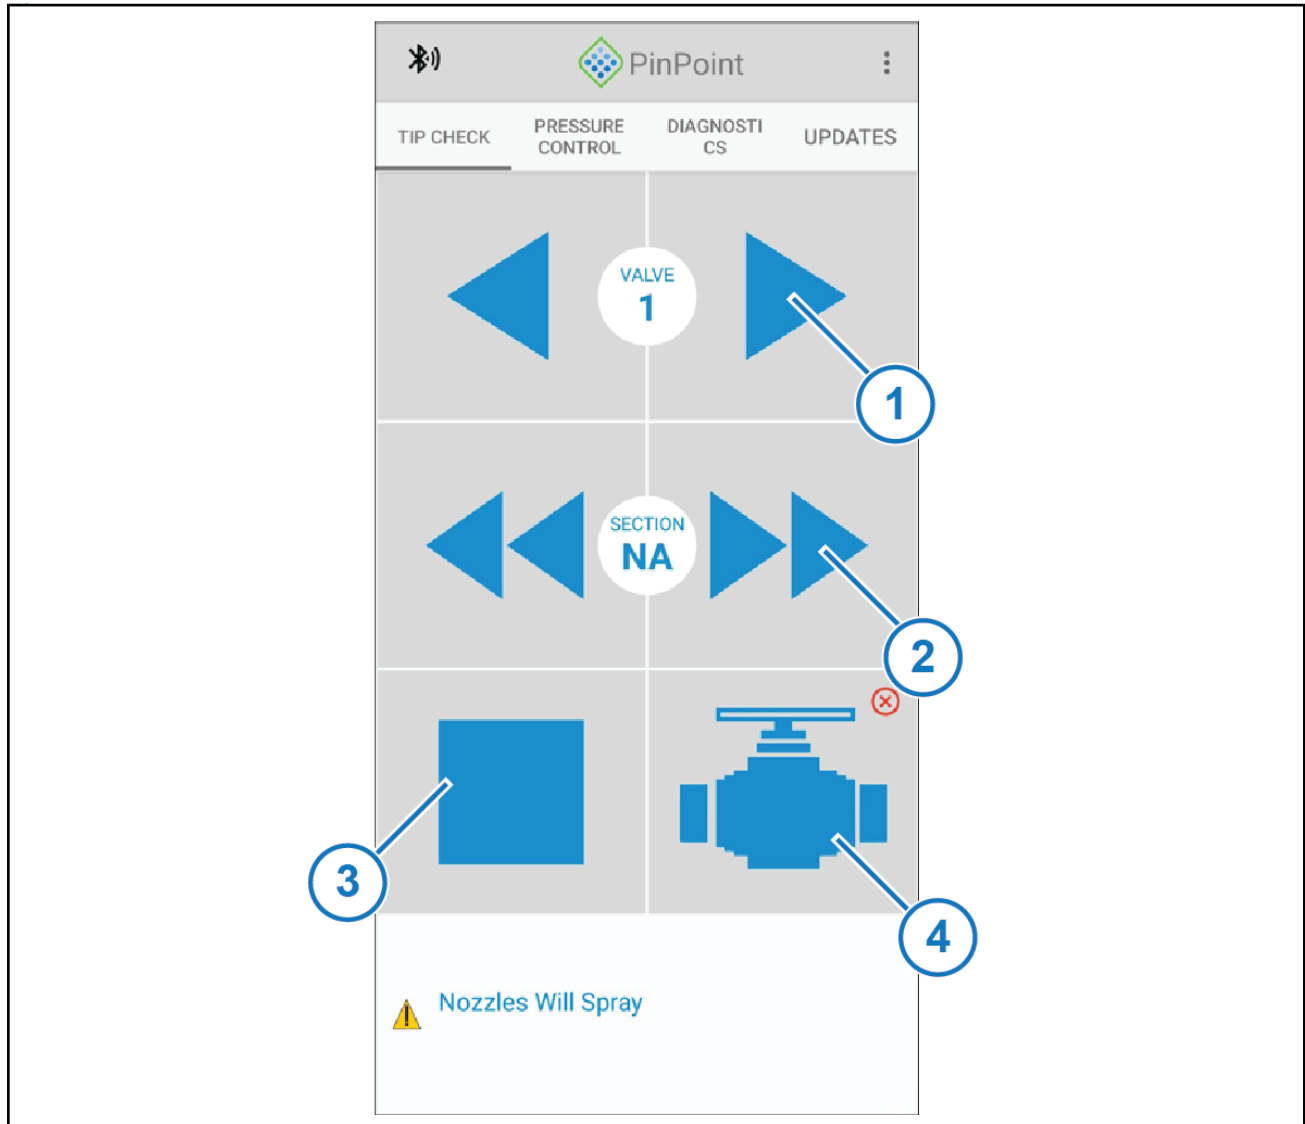

Figure 4: Tip Check
2. Tap the single arrow icons (Figure 4, Item 1) to cycle each nozzle valve individually in sequence.
3. Tap the double arrow icons (Figure 4, Item 2) to cycle all nozzles in a section in sequence.
4. Tap the stop icon (Figure 4, Item 3) to stop the nozzles cycling.
5. The valve icon (Figure 4, Item 4) is used to control section valves.